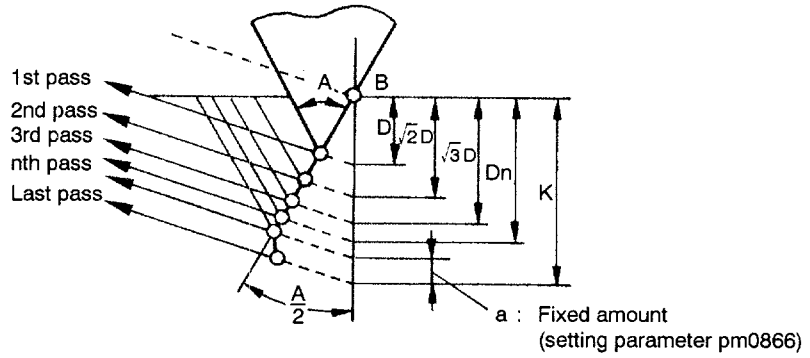

Fig. 4.48 In-feed Near Point B
- How the cutting tool is moved near point B is shown in Fig. 4.48 (taper thread).